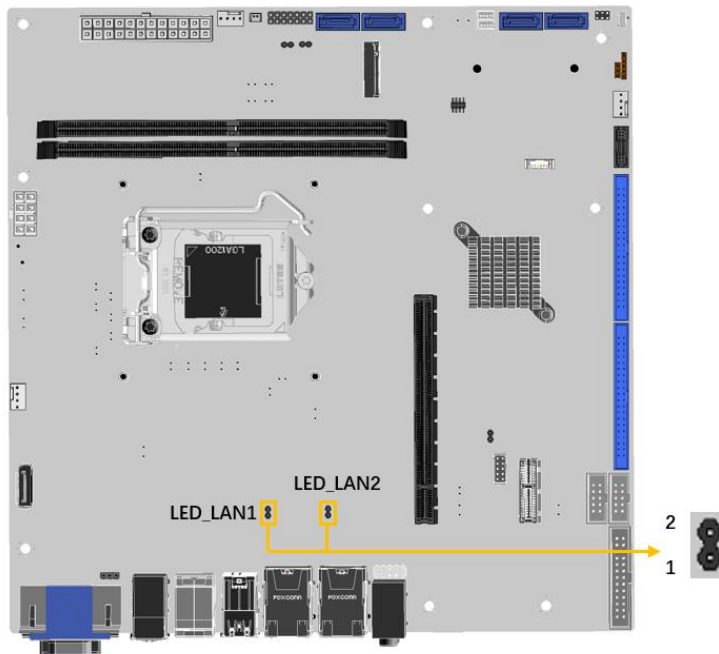

Figure 3-15: LAN LED Connector Locations
- CN Location:** See **Figure 3-15**